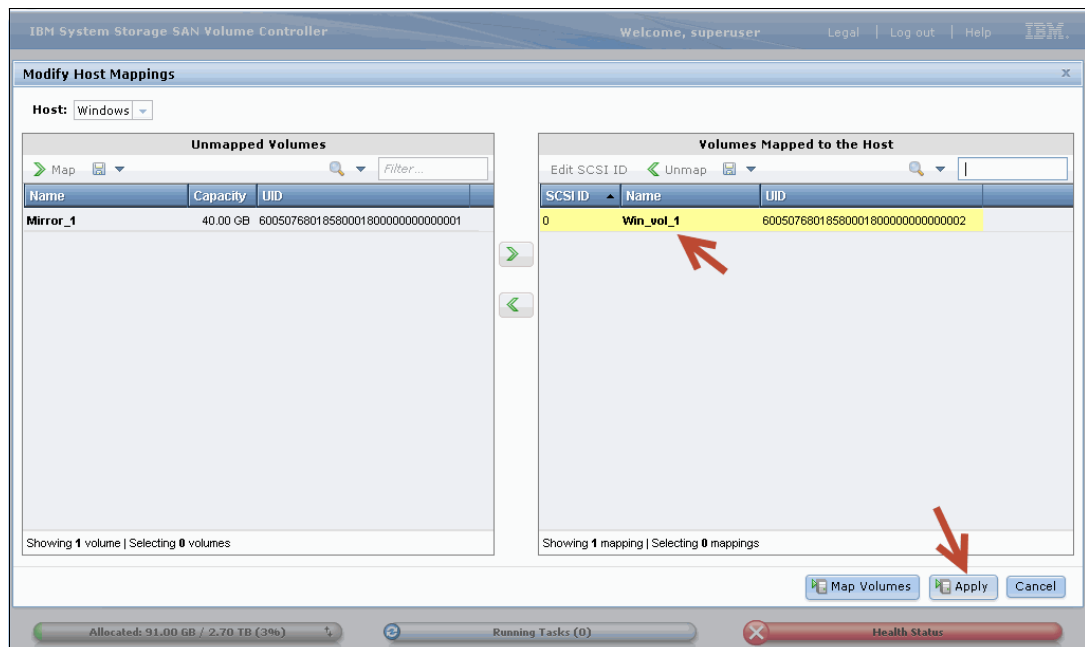

Figure 8-14 The Map to Host steps
6. Another pop-up menu is displayed. Select the volumes that you want to map to the host (Figure 8-14). Click **Apply** to complete the assignment.